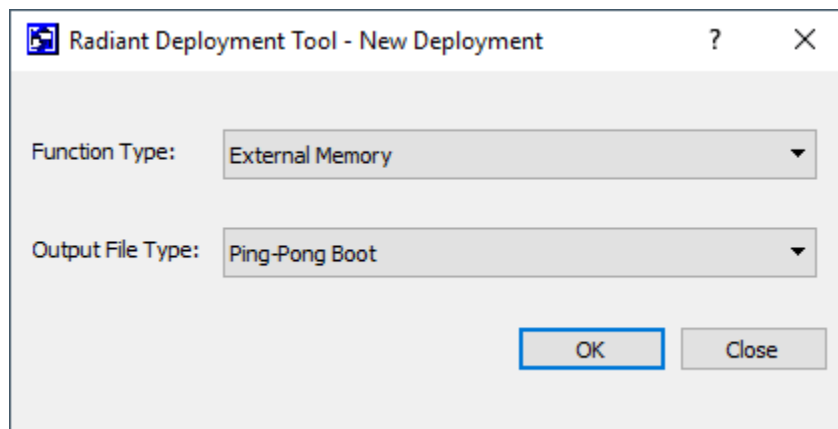

Figure 6.6. Creating New Deployment for Ping-Pong Boot PROM Hex File
- In the Radiant Deployment Tool window, select External Memory as the Function Type and select Ping-Pong Boot as the Output File Type (Figure 6.6).